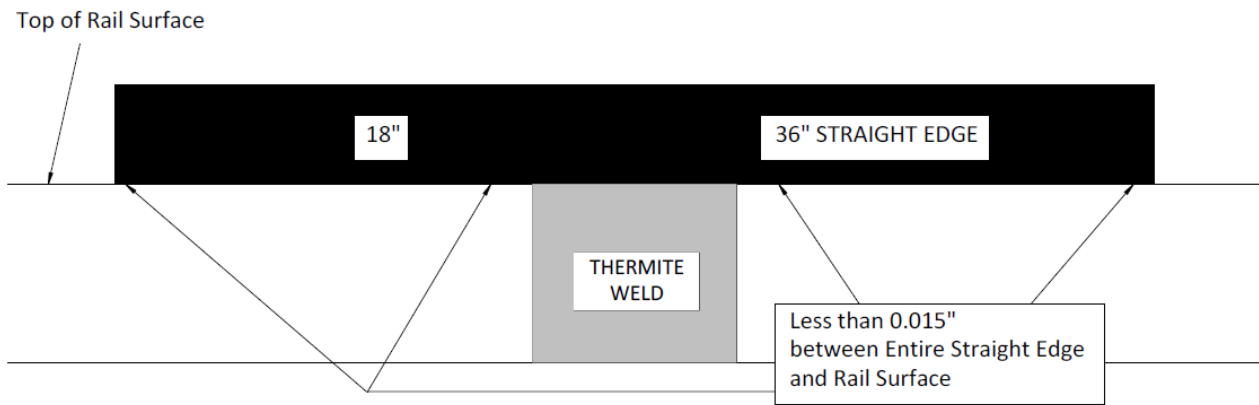

Fig. 29.4
- The maximum distance between the rail head and any point along the entire length of the straight edge should be less than fifteen thousandths (.015) of an inch. (Figure 29.4)